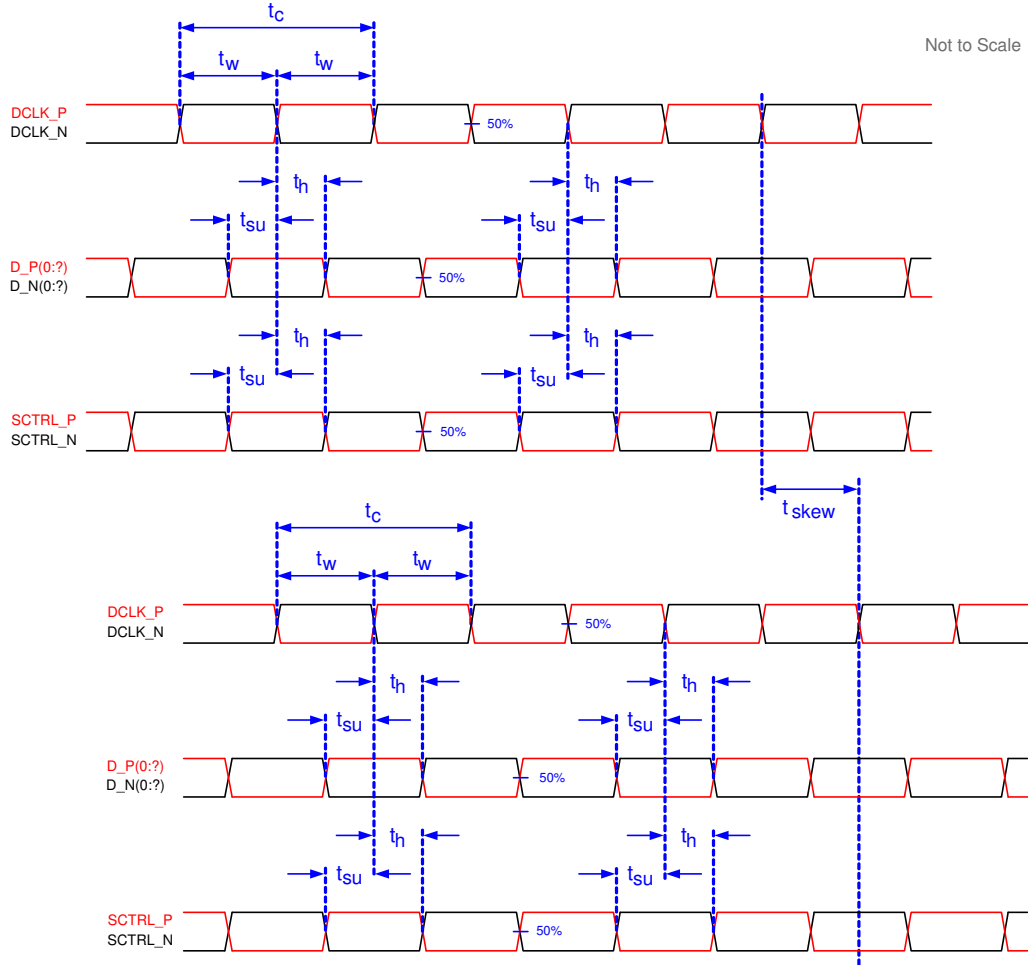

图 6-6. Timing Requirements
- (7) See LVDS Timing Requirements in 节 6.8 and 图 6-6.
- (1) See 图 6-6 for timing requirements for LVDS.
- (2) Channel A (Bus A) includes the following LVDS pairs: DCLK_AN and DCLK_AP, SCTRL_AN and SCTRL_AP, D_AN(15:0) and D_AP(15:0).
- (3) Channel B (Bus B) includes the following LVDS pairs: DCLK_BN and DCLK_BP, SCTRL_BN and SCTRL_BP, D_BN(15:0) and D_BP(15:0).